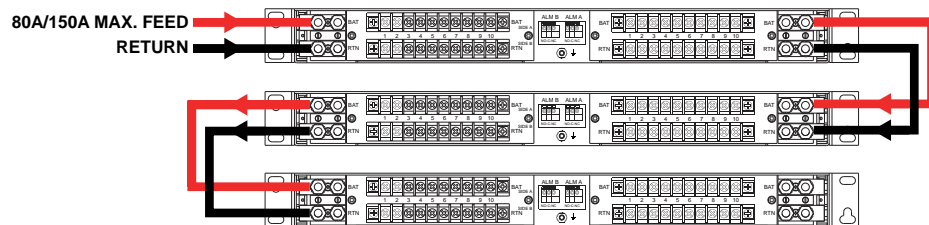

Figure 9. Series Connection of Multiple Panels
11.2.1 Single feed models with option S - Although these models have both left and right side input bus bars fitted, it is only necessary to connect the input feed to one side for correct operation. As the unused side is directly connected to the live input feed it can be used for supplying additional panels in series. See figure 9 below.